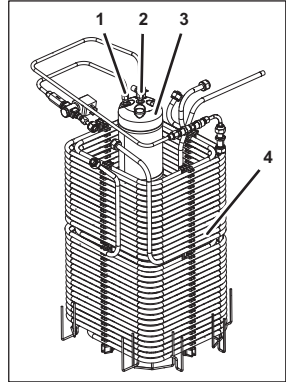

Figure 87
9. Lift the cooling coil basket (Figure 87/4) with carbonator tank (Figure 87/3) out of the unit.
10. Disconnect the connecting line from non-return valve 1 to the carbonator tank (Figure 87/3) from the coupling (Figure 87/2).
11. Disconnect the connecting line from non-return valve 2 to the carbonator tank (Figure 87/3) from the coupling (Figure 87/1).
14. Lift the carbonator tank (Figure 87/3) up and out of the cooling coil basket (Figure 87/4).
15. Position the new carbonator tank (Figure 87/3) within the cooling coil basket (Figure 87/4).
16. Attach the carbonator tank (Figure 87/3) to the cooling coil basket (Figure 87/4) using a cable tie.
17. Make sure the carbonator tank (Figure 87/3) is firmly placed against the cooling coils.
20. Attach the connecting line from non-return valve 2 to the carbonator tank (Figure 87/3) to the coupling (Figure 87/1).
21. Attach the connecting line from non-return valve 1 to the carbonator tank (Figure 87/3) to the coupling (Figure 87/2).
22. Position the cooling coil basket (Figure 87/4) with carbonator tank (Figure 87/3) within the unit.